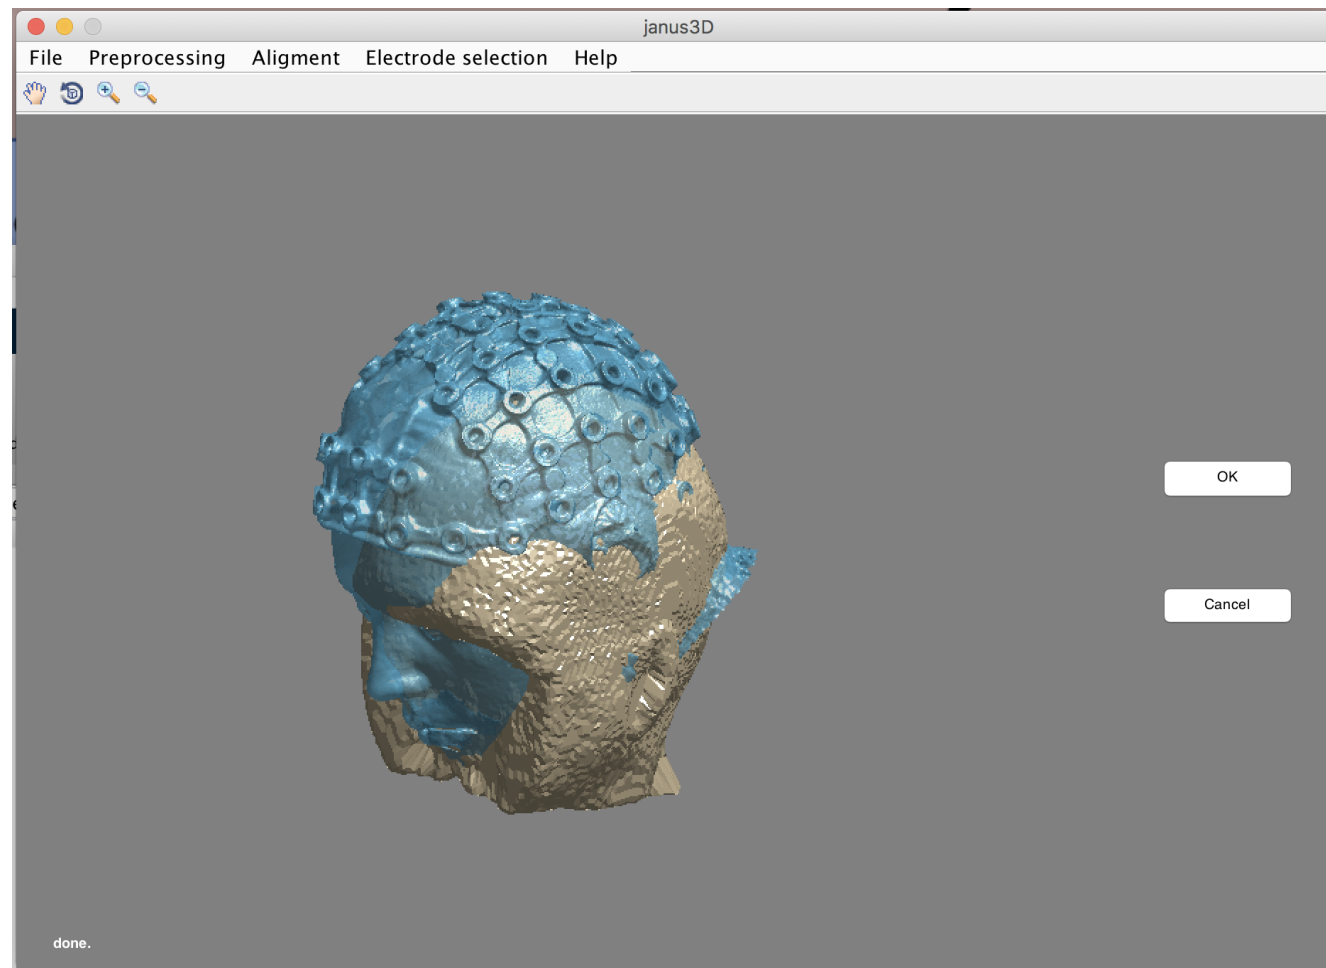

Figure 39. Alignment of the 3D model and MRI scan
7. Figure 39 shows the manual alignment of the model and the scan. If your MRI scan is not defaced, this will work better. You will be able to manually correct it after the manual alignment, so it is not an issue if the alignment does not look perfect yet. If the alignment does not work, the issue might be the de-facing process, so you might want to try this again.